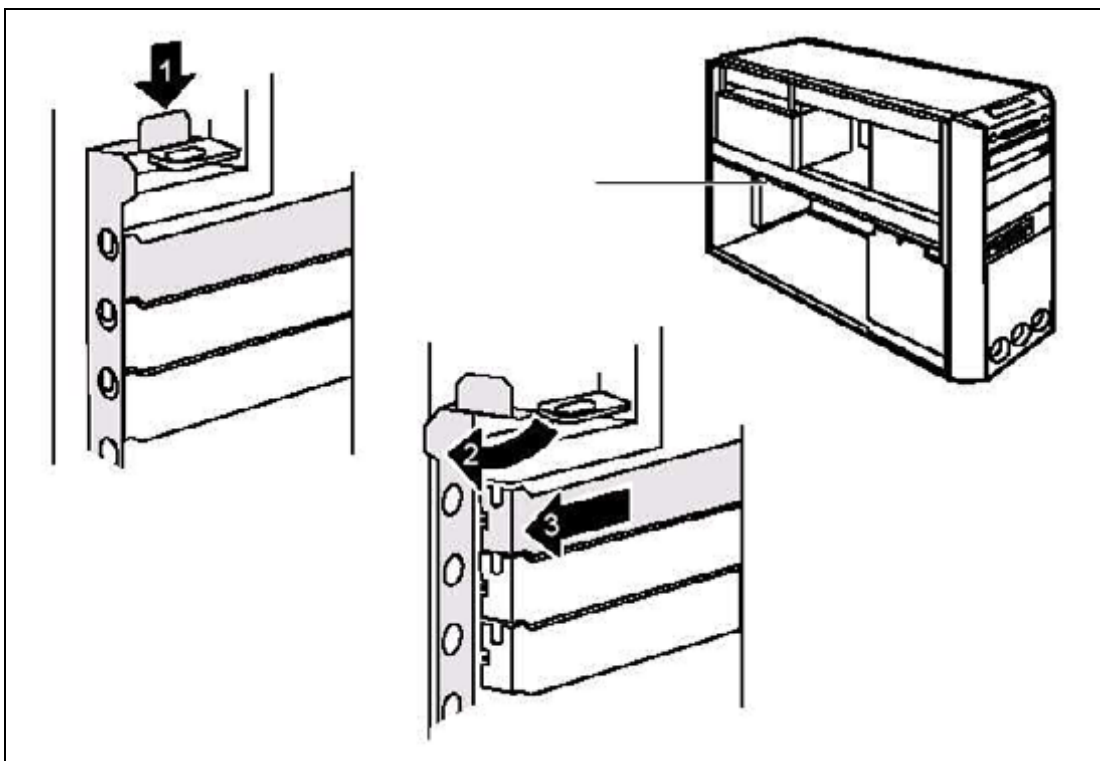

Fig. 59: Replacing a PCI board_3
7. Press the unlocking mechanism (1/Fig. 59 / p. 104) down and open the locking rail (2/Fig. 59 / p. 104). The word "PRESS" is embossed on the unlocking mechanism.
10. Remove the board from the slot (3/Fig. 59 / p. 104).
2. Press the unlocking mechanism (1/Fig. 59 / p. 104) down and open the locking rail (2/Fig. 59 / p. 104). The word "PRESS" is embossed on the unlocking mechanism. .